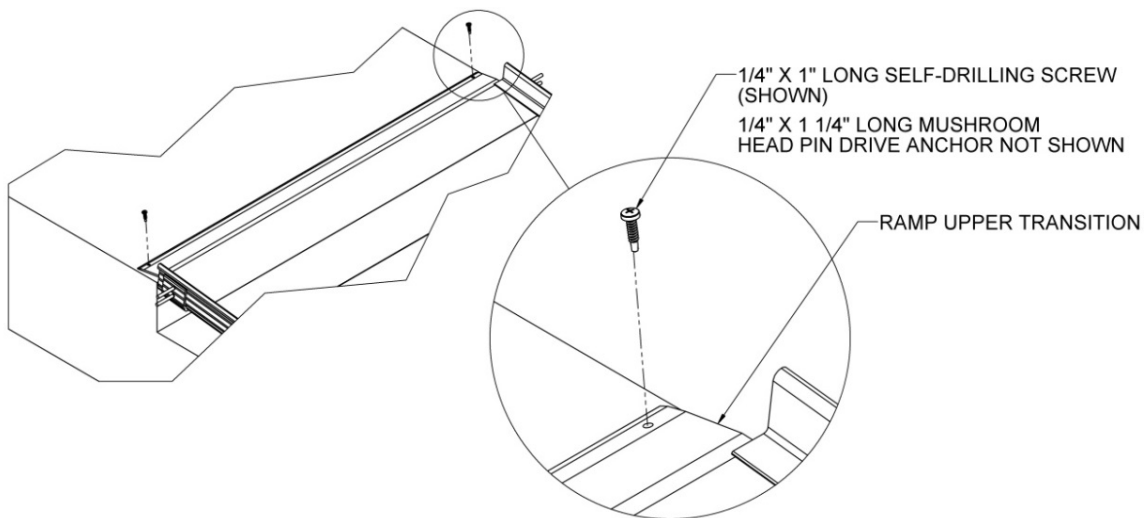

FIG. 3.18
- 3.7.1.1. Secure HARRUT (RAMP UPPER TRANSITION) by installing the 1/4" x 1" long self-drilling screw through each hole (FIG. 3.18).